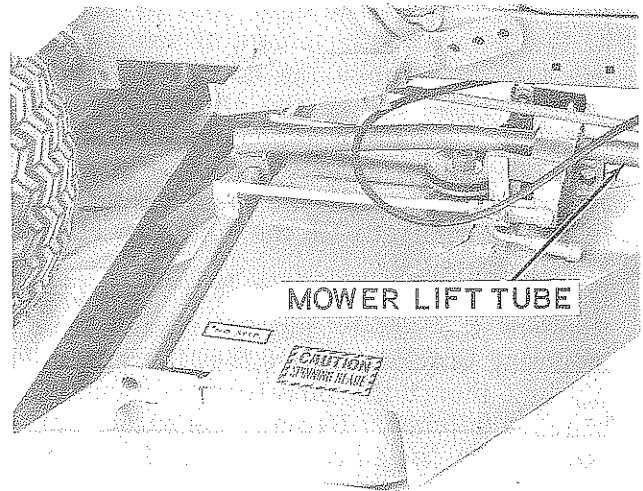

Figure 12. Mower Deck Slid Under Tractor
3. With the idler pulley assembly off the mower lift tube and the drive belt positioned over the drag link as shown in Figure 12, slide the deck sideways under the tractor.